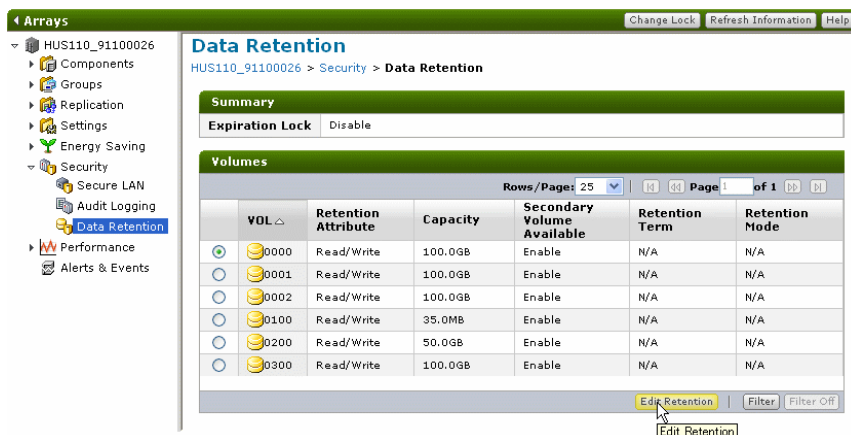

Figure 5-25: Data Retention dialog box
3. Click **Data Retention**. Figure 5-25 appears.